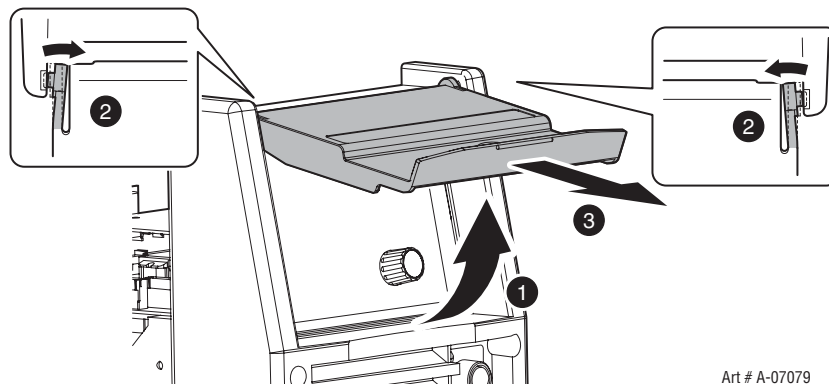

Figure 9-1: VRD ON/OFF Step A
A) Remove the clear plastic cover from the control panel (see Figure 9-1).